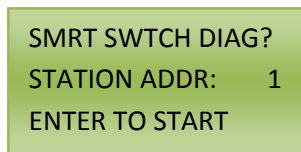

Figure 5.5
6. To test that the Time-Keeper® is communicating with the 2-Wire and RS-485 Control Stations, press FWD until the LCD screen says, “SMRT SWTCH DIAG?” See Figure 5.5 for a visual example.